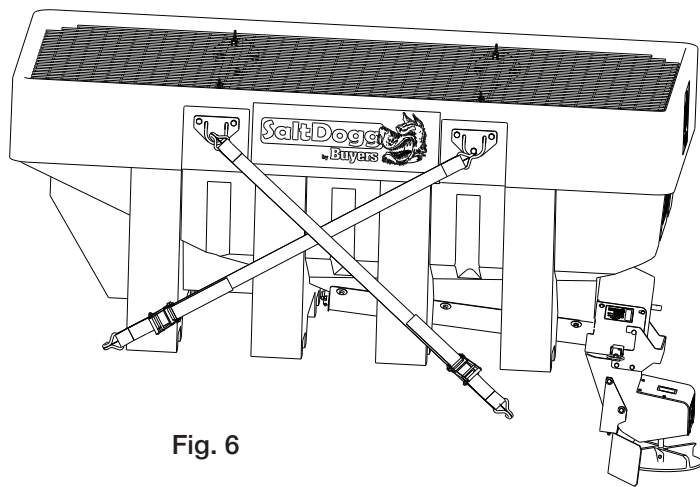

Fig. 6
H. Secure spreader using four ratchet straps as shown in Fig. 6. Tighten straps evenly to secure spreader in the middle of the truck box.